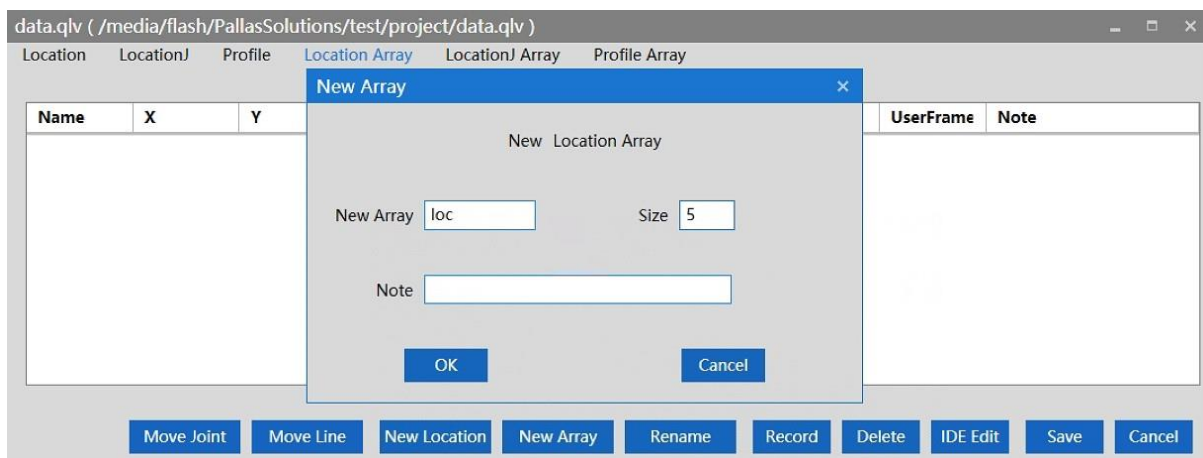

Figure 6-36 New Location Array
Step 4 New Location Array; Click "New Array" in "Location Array", and the "New Array" interface will pop up. Enter the array name and array length, and click "OK", as shown in Figure 6-36.